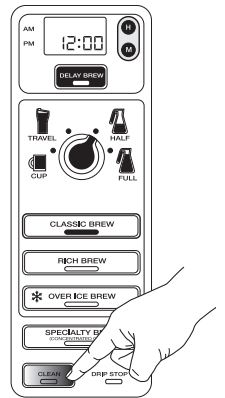

Fig. 9
- 8 Once all parts are securely in place, press the Clean button to thoroughly clean the machine before first use. (Fig. 9)